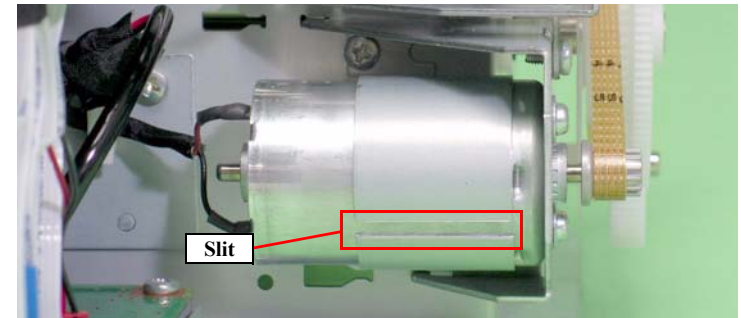

Figure 4-136. Installing the PF Motor
- Face the slit of the PF Motor as shown in Figure 4-136.